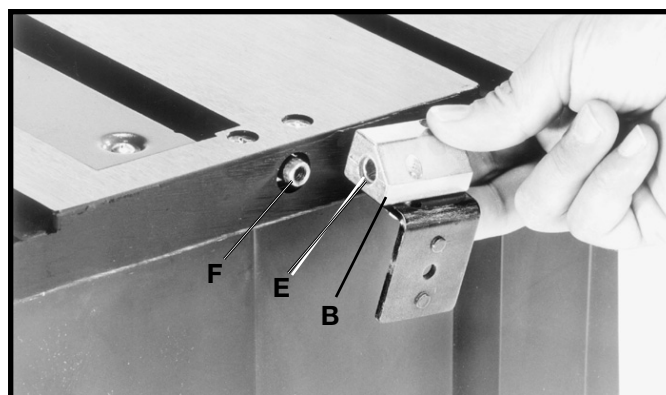

Fig. 11
5. Position recessed end (E) Fig. 11, of splitter bracket (B) against end of pivot rod (F) and fasten in place using assembly from STEP 4. **NOTE: Do not completely tighten screw (G) at this time.**